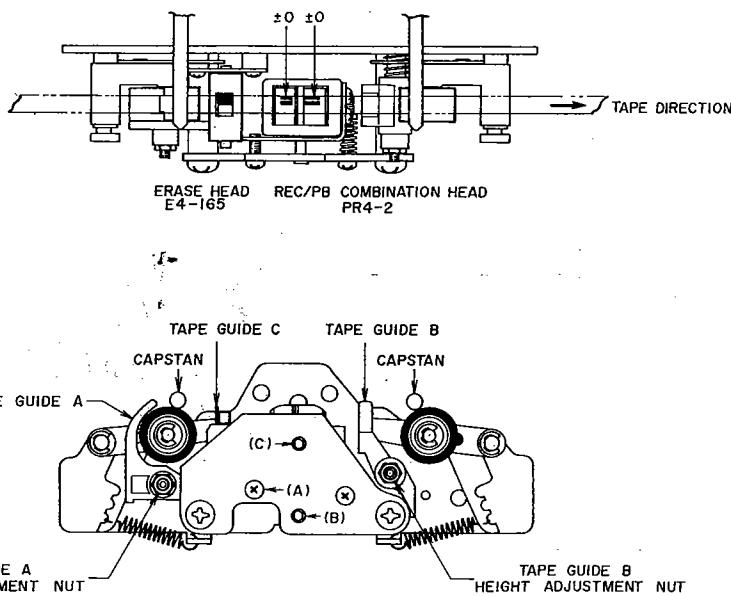
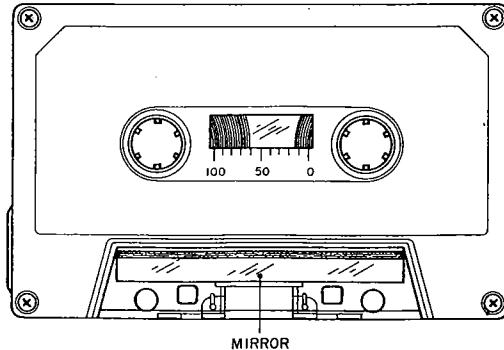

Fig. 14
Fig. 15
1. TAPE GUIDE HEIGHT ADJUSTMENT (Refer to Fig. 14 and Fig. 15)
- 1) When using an ordinary cassette, the tape guides and heads, etc. are not visible. As shown in Fig. 15, use a cassette tape from which part of the cassette case has been cut out and a mirror installed for easy visibility of the head area when making tape guide height adjustment.
- 2) At playback mode, using the erase head guide C shown in Fig. 14 as standard for height, adjust tape guide A and tape guide B height with tape guide height adjustment nuts so that the tape runs smoothly and does not catch on the tape guides.
2. HEIGHT ADJUSTMENT OF RECORDING/ PLAYBACK COMBINATION HEAD (Refer to Fig. 14)
- 2) As shown in Fig. 14, adjust head height with screws (A), (B), and (C) until the upper edge of the tape is the same height as the upper edge of the left channel REC/PB Comb. head core.
3. AZIMUTH ALIGNMENT ADJUSTMENT OF RECORDING/PLAYBACK COMBINATION HEAD (Refer to Fig. 14)
- 1) Playback a 10 kHz pre-recorded cassette azimuth alignment test tape and adjust screw (A) shown in Fig. 14 to obtain maximum output on both channels.
- 4) Set Monitor Switch to "TAPE" position and adjust screw (A) shown in Fig. 14 to obtain maximum output on both left and right channels.
4. When a mirror installed cassette test tape as shown in Fig. 15 is required, it can be ordered from AKAI Electric Co.